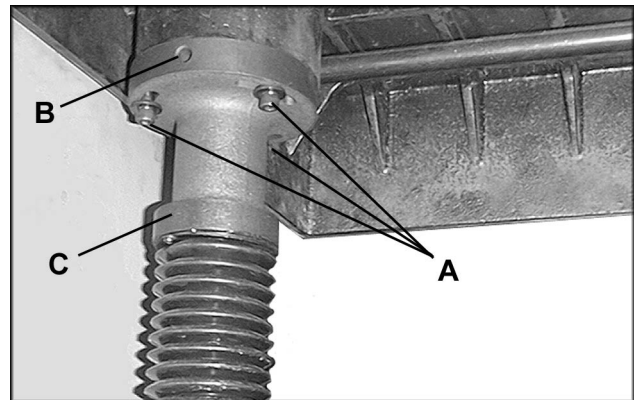

FIGURE 17
2. If the table is not parallel, place the gauge at the end that needs to be raised. Loosen the three socket head screws (A) beneath the table, as shown in Figure 17, place a rod into one of the open holes (B), and turn the shaft (C) to raise the table until the gauge contacts the cutterhead. Or, the same effect can be achieved by lowering the other side of the table.